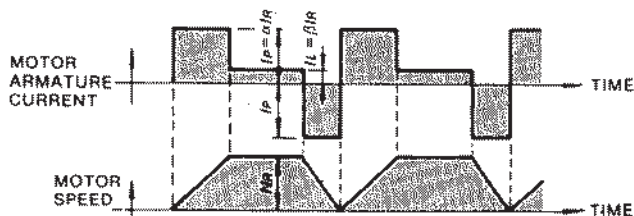

Fig. 4.5 Timing Chart of Motor Armature Current and Speed
- When the motor accelerates, runs at constant speed, and decelerates in a continuing cycle without being at standstill (Fig. 4.5).
The timing chart of the motor armature current and speed is as shown in Fig.4.5. The allowable frequency of operation "n" can be calculated as follows.